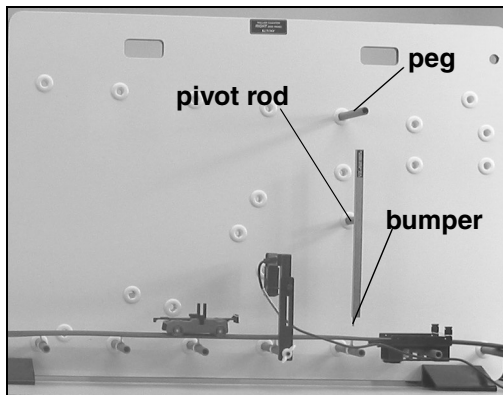

Figure 2a: Front view of pendulum with pivot pin
2. a) Attach the pendulum bar by sliding the pivot pin into the middle of the pendulum bearings. Insert the pivot rod into the exact hole shown on the peg board (Figure 2a).
- b) Place a normal length support peg in the hole as shown at the top of the swing (Figure 2a). This acts as a stop to prevent the pendulum rotating more than 180° .